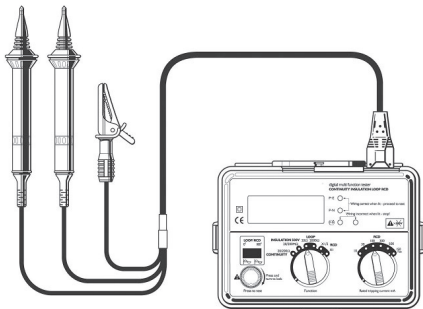

Fig 11
- Connect the distribution board test lead (See Fig. 11 above) to the IEC socket of the instrument.
If testing of an RCD is to be carried out at a distribution board, connect the distribution board test leads (see Fig. 11) in place of the mains lead. Replace the red and black test probes with crocodile clips if required. Connect the green crocodile clip to the earth connection; the black neutral lead to the neutral and the red phase test lead to phase. Disconnect the test leads in the reverse order of connection.